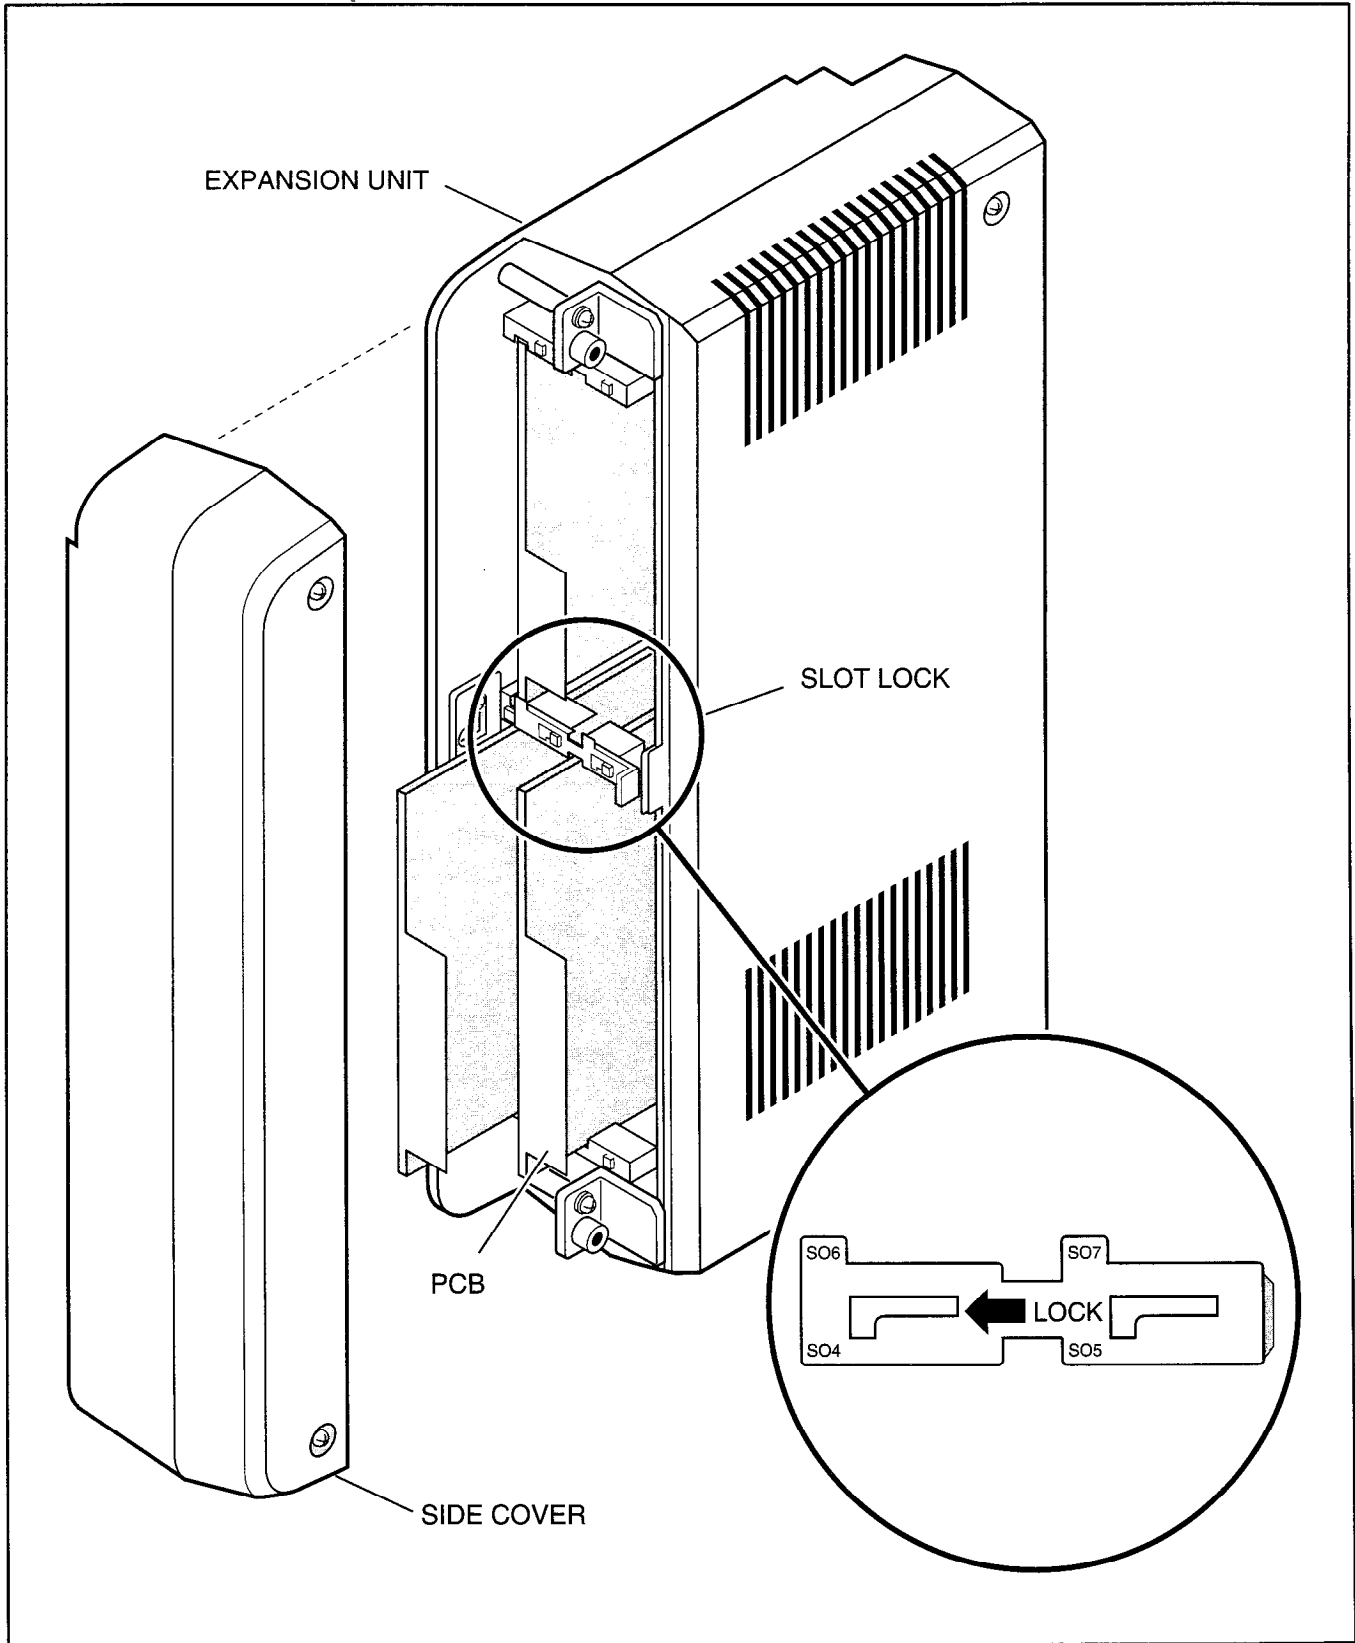

FIGURE 5-7
- 9) Install applicable printed circuit boards (PCBs) (see Chapter 5, Section II)—after PCBs are installed, slide the slot lock to the lock position (Figure 5-7).
- 15) Install the side cover to the Expansion Key Service Unit (Figure 5-7).